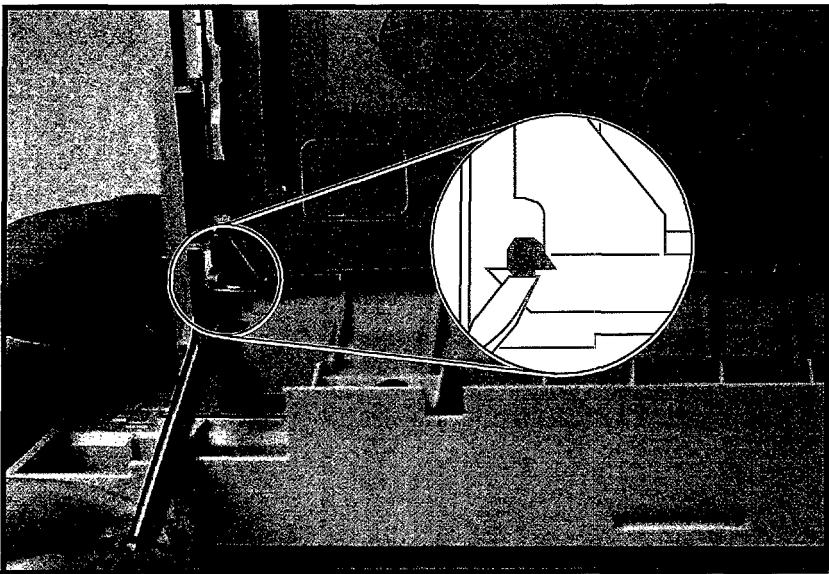

Figure 6-20 Removing the Paper Cassette Assemblies
2. Release the plastic latch on the lower left corner of the cassette assembly (Figure 6-20). Rotate the metal bar up and out of the way.